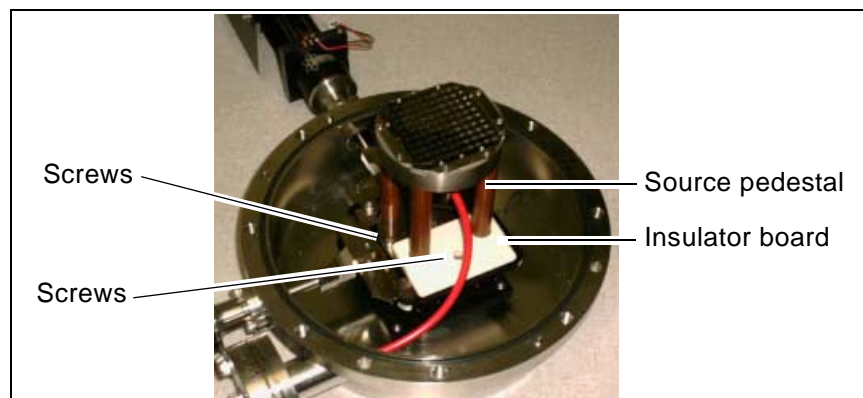

Figure 5-11 Sample Stage X-Y Table
1. With a 7/64-inch T-handle allen wrench, loosen the four 6/32 inch screws (Figure 5-11) that mount the pedestal to the XY table.